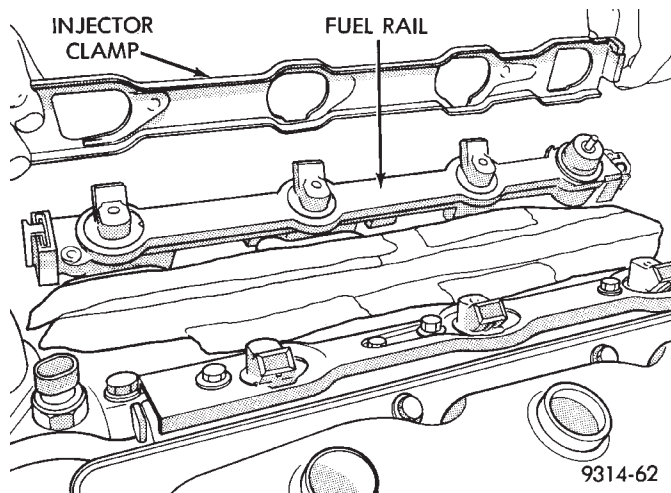
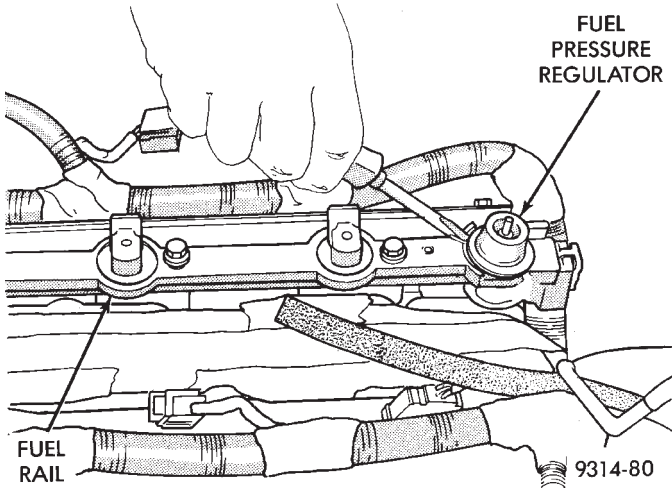

Fig. 27 Injector Clamp Removal/Installation
Fig. 28 Fuel Pressure Regulator Removal
(7) Slide the injector clamp toward the rear of the engine, then lift the clamp off of the rail (Fig. 27).
(8) Install fuel rail mounting bolts finger tight.
(9) Using a thin flat screwdriver, pry the fuel pressure regulator out of the fuel rail (Fig. 28).
(10) Ensure the upper O-ring, upper spacer, lower O-ring, and lower spacer were removed with the regulator. If not, remove them from the well in fuel rail.